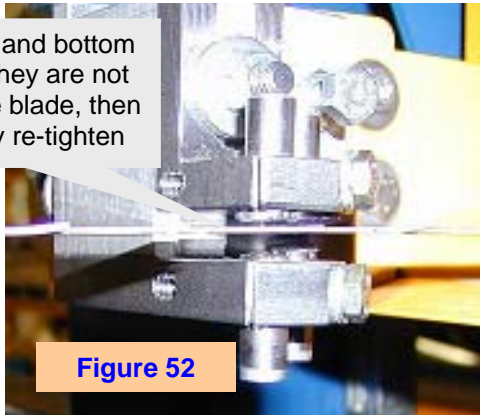

Figure 52
- ☐ Open the cowling doors and rotate the wheels counter clockwise to (A) ensure proper tracking and (B) to put the weld of the blade at the top and centered between the wheels. This will ensure the bullets are set to a flat part of the blade.
- ☐ Start by loosening the 1/4" bolts holding the bottom bullet guides and drop the bullets downward then re-snug them so they don't fall out (see **Figure 52** on next page).